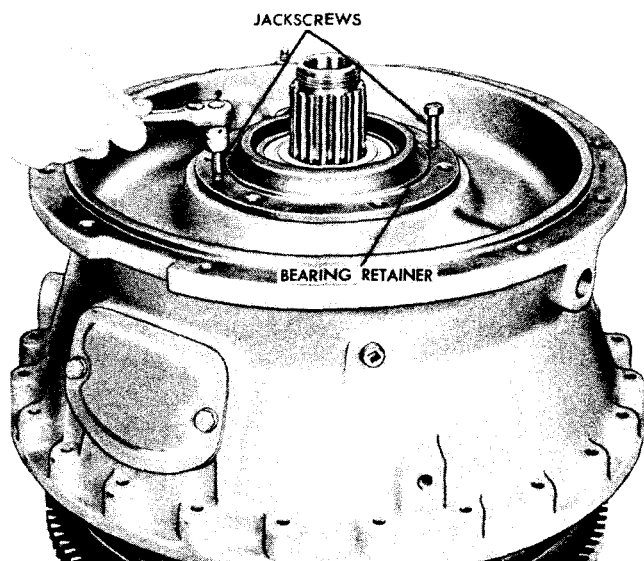

Fig IX-9. Loosening bearing retainer with jackscrews
(2) Use jackscrews to remove the retainer (fig. IX-9). Remove the bearing.